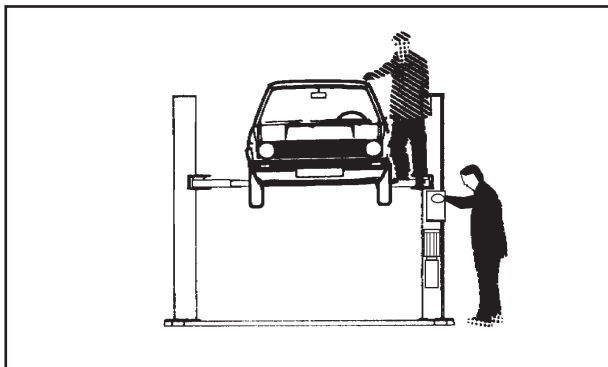

Fig.24
**E' VIETATO SALIRE SUL VEICOLO E/O METTERLO IN MOTO CON IL SOLLEVATORE INNALZATO (fig.24).**
**NEVER BOARD THE VEHICLE AND/OR TURN THE ENGINE ON WHEN LIFT IS RAISED (fig.24).**